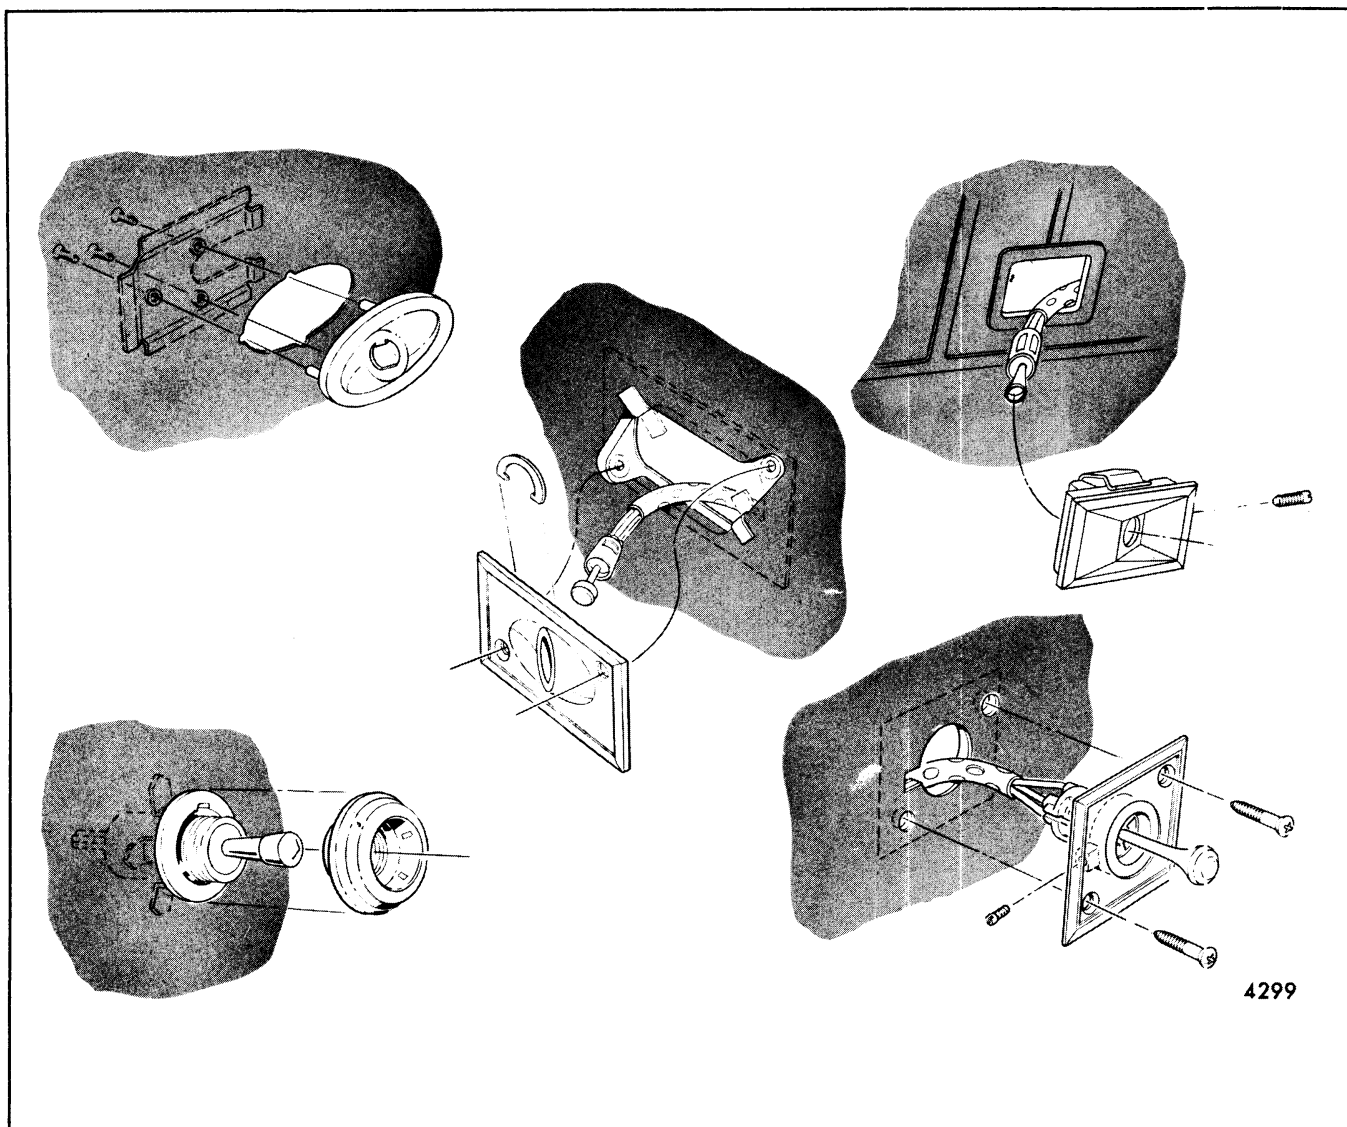

Fig. 5-5-Typical Remote Mirror Cable and Escutcheon Attachment
On most styles with remote control door outside mirrors, the remote control mirror cable must be disengaged from the door trim assembly or arm rest to permit trim assembly removal. To disengage the remote cable from the door trim assembly, refer to Figures 5-5, 5-6 and 5-7.
4. On styles with remote control mirror assemblies, remove remote mirror escutcheon and disengage end of mirror control cable from escutcheon as previously described (Figs. 5-5, 5-7 and 5-3).